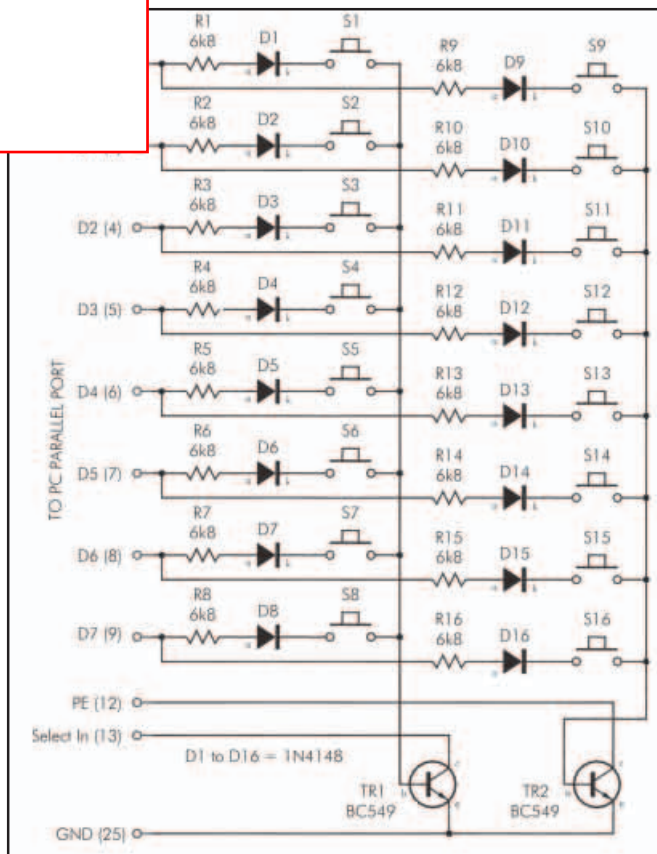

Fig.2. Extending the 'active' circuit to accommodate 16 switches
In the circuit of Fig.2 switches S1 to S8 are read via the Select In handshake input, which is at bit 4 of the printer port's status register. Switches S9 to S16 are read using the Paper Empty (PE) handshake input at bit 5 of the status register.